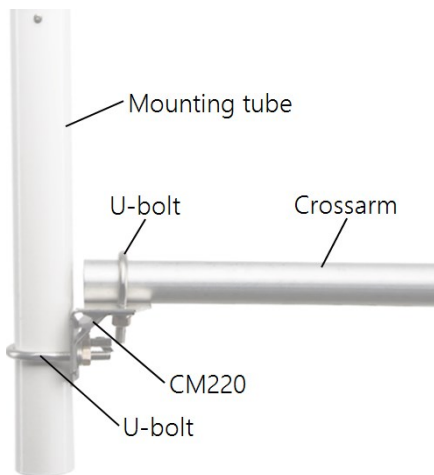

Figure 7-1. ClimaVue50, MetSENS, or WindSonic Mounting Pipe Kit and crossarm
1. If using a crossarm, attach the mounting tube to the crossarm by using the CM220 Right Angle Mounting Kit, then mount the crossarm to the tripod or tower (Figure 7-1 [p. 14]).